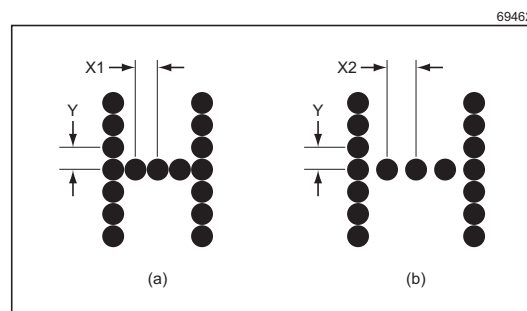

Figure 50. Distance between drops in a message
In Figure 50(a) the letter “H” is printed at an ideal Print Width—the horizontal spacing (X1) is equal to the vertical spacing (Y). In Figure 50(b), the Print Width is larger than the ideal Print Width—the horizontal spacing (X2) is larger than the vertical spacing (Y).